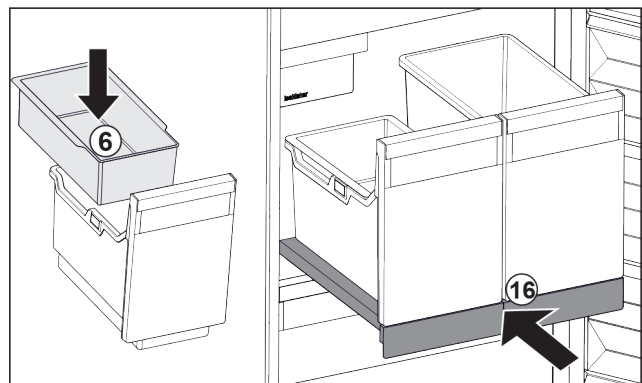

Fig. 40
- ▶ Insert hang-on tray Fig. 40 (6) for ice cubes.
- ▶ Slide in the pull-out board with (IceTower) container. Fig. 40 (16)